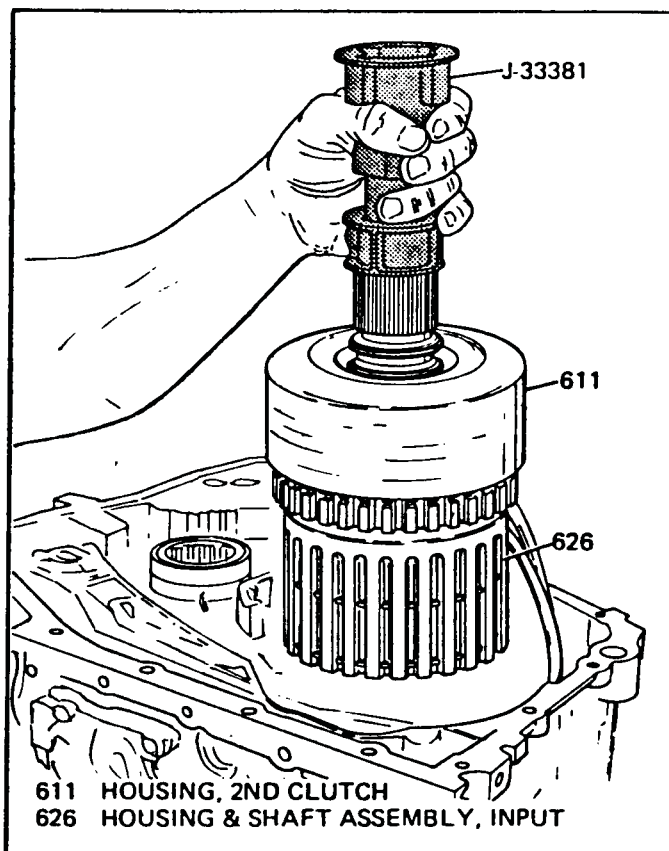

Figure 56
3. Remove the 2nd clutch housing, input/third clutch housing, sprag and roller clutch assembly, and input sun gear, as shown in Figure 56.